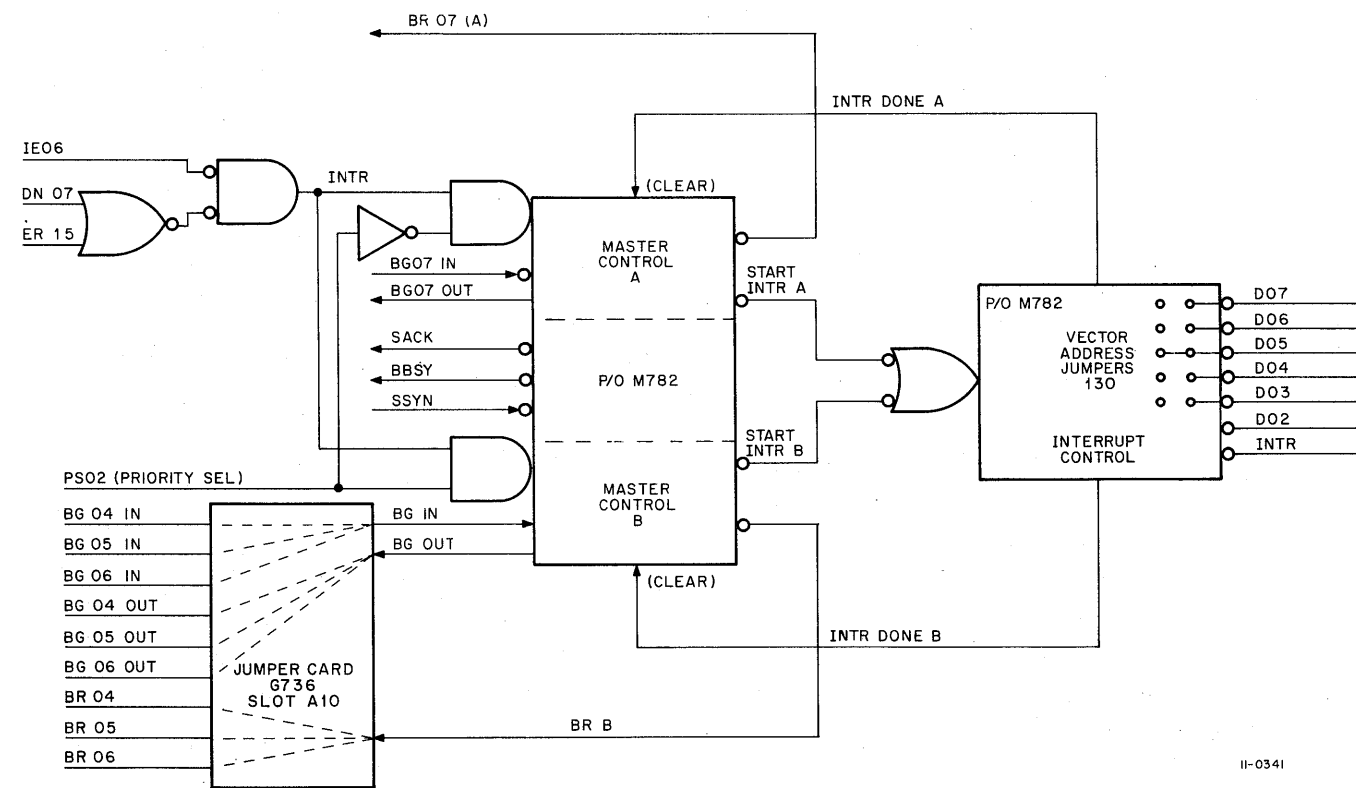

Figure 4-3 AD01-D Interrupt Logic
Figure 4-3 illustrates the interrupt logic of the AD01-D. Most of the interrupt logic is contained in the M782 Interrupt Control Module. The interrupt logic allows the AD01-D to request and gain access to the Unibus on a priority basis. There are only two conditions for which the AD01-D may require use of the Unibus: in the event of an error (CSR bit ER15 is set), or when one conversion is done (CSR bit DN07 is set). Before the interrupt logic can request use of the Unibus, the CSR interrupt enable bit (bit IE06) must be set to enable the interrupt logic. Two levels of priority are available to the AD01-D: level 7 and level 4, 5, or 6 as established by Jumper Module G736. Either level can be selected under program control simply by changing the state of the priority select bit (CSR bit PS02). With bit PS02 reset, master control A of the M782 Module is enabled to issue a bus request of the highest priority (BR7). Master control B is enabled to issue a lower priority request (BR4, 5, or 6) when the bit PS02 is set. Setting the DONE or ERROR bits of the CSR activate the enabled master control to issue a bus request. Priority permitting, the processor relinquishes the bus to the AD01-D by issuing a bus grant (BG) signal.